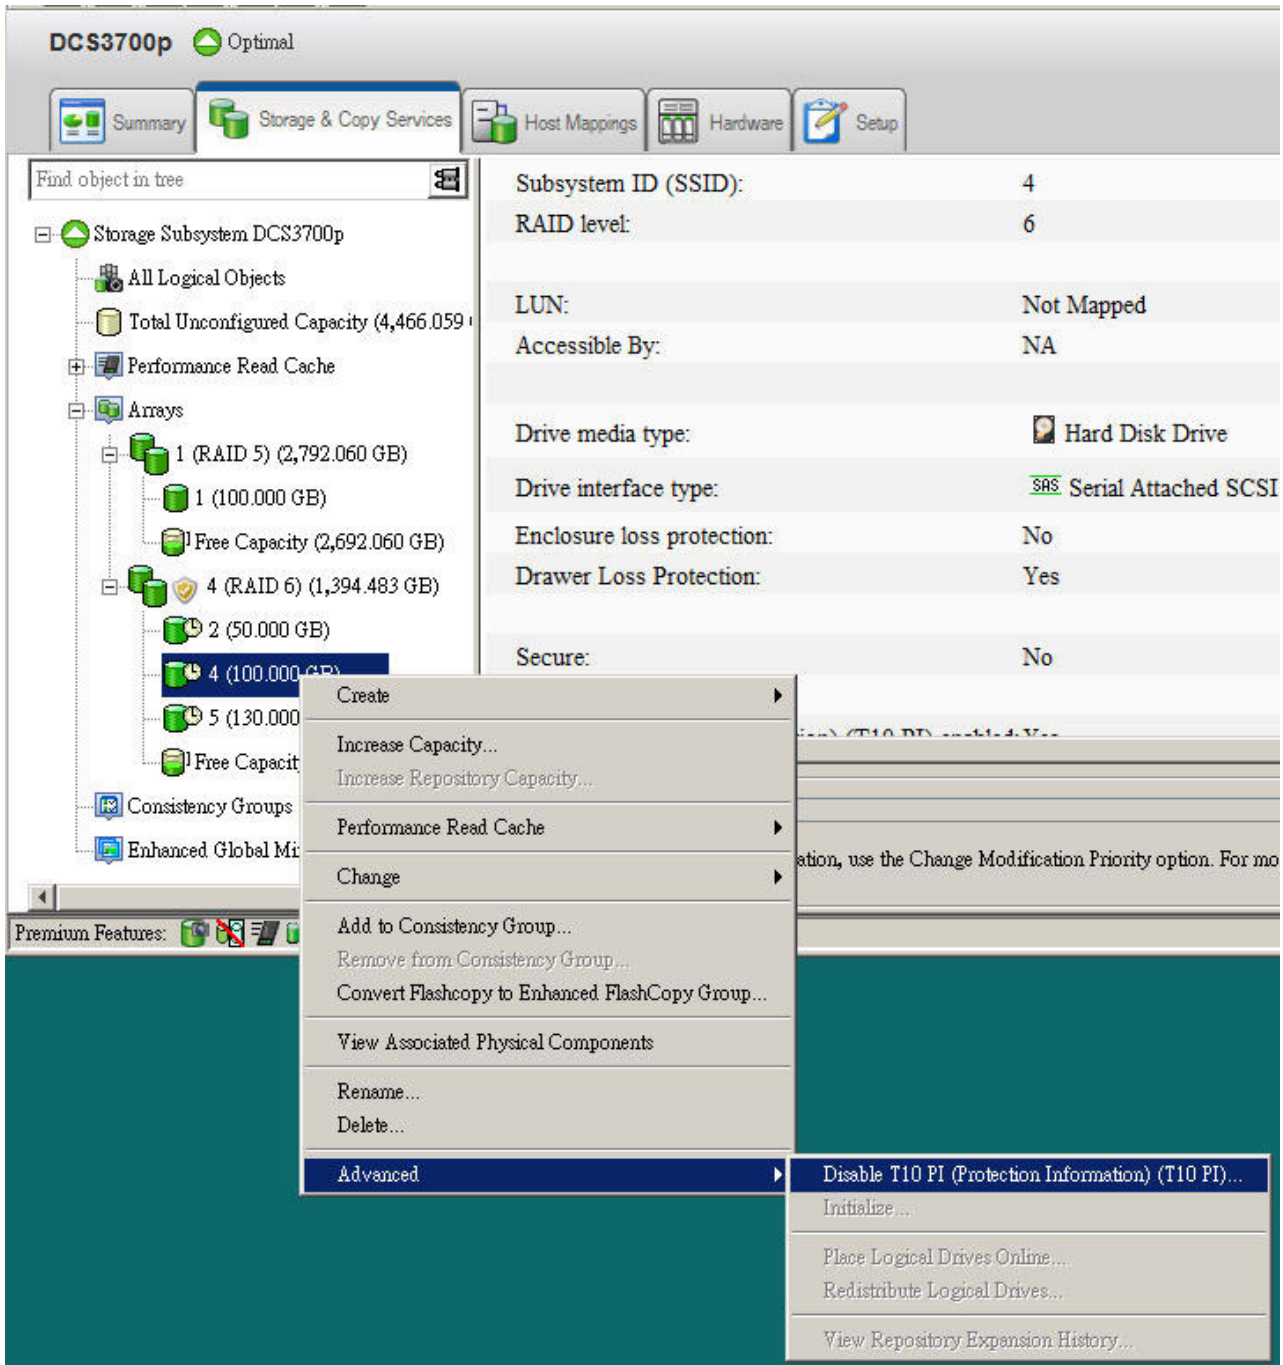

Figure 8. Disabling T10PI
- Right-click the drive that you are disabling T10PI capability and select **Disable T10PI (Protection Information) (T10PI)** as shown in Figure 8 on page 66.